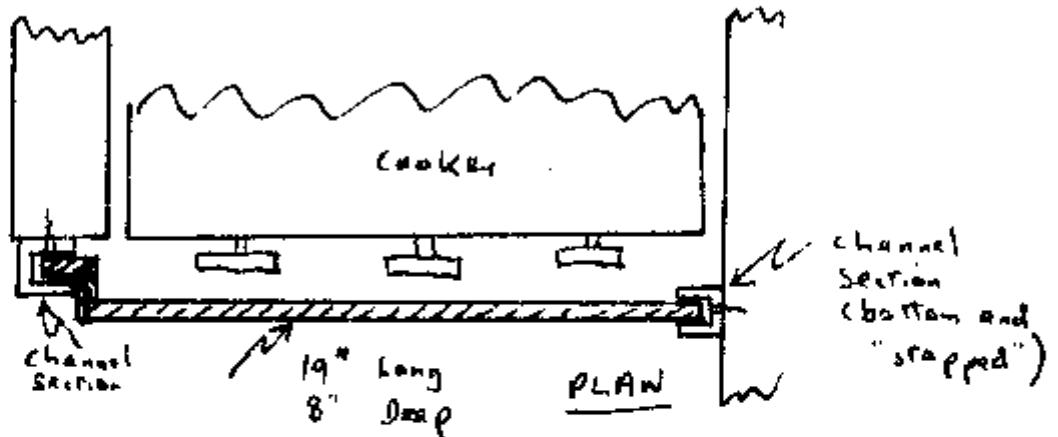

FIG 1 - Gas Taps Cover
- (1) Sea Ranger 5600 VHF Radar telephone now fitted and uses the masthead V-Tronic aerial. Probably a luxury but as an electronics engineer and ex Radio Ham, I could not resist having one. For the 'domestic' radio - a 3 band stereo cassette car radio - I have fitted a removable whip aerial on the front end of the push pit clear of the area swept by the boom.
- (2) Though the gas supply is, of course, normally turned off at the bottle, I had the experience during a meal of knocking a cooker gas tap slightly on with my elbow. The removable cover described at Fig 1 protects the gas taps from being accidentally turned on and is also a better 'head rest' for the occupant of the starboard quarter berth.
- (3) Standing topping lift fitted - fixed at masthead; a Holt Allen HA6 sheave box installed on the starboard end of the boom (to replace the existing D strap) guides the topping lift into the boom whence it emerges through a slot to a jamming cleat.
- (4) Third slab roofing point fitted to match the existing two. (My main sail has the two existing roofing points more closely spaced than the current build standard).